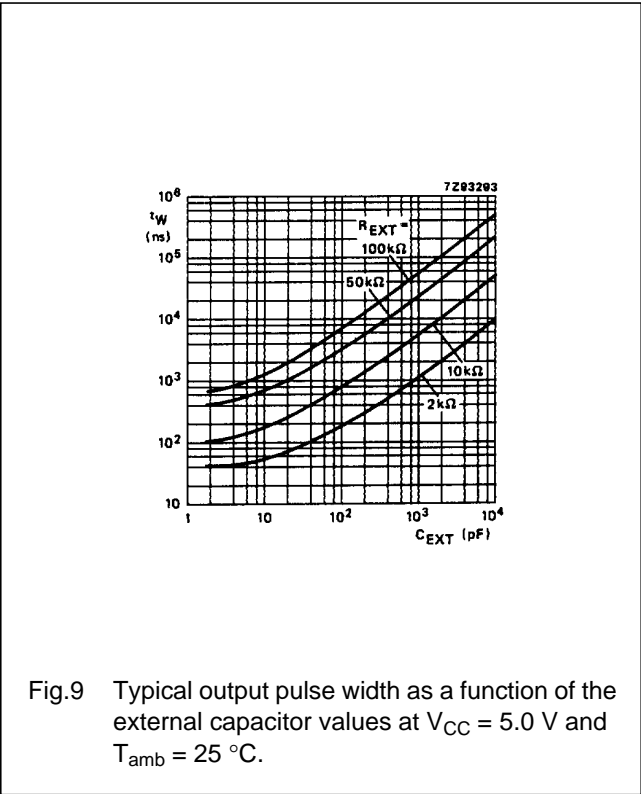

Fig.9 Typical output pulse width as a function of the external capacitor values at $V_{CC} = 5.0\text{ V}$ and $T_{amb} = 25\text{ }^\circ\text{C}$.
1. For other R_{EXT} and C_{EXT} combinations see Fig.9.